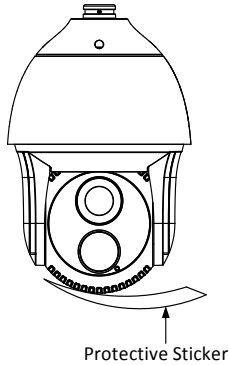

Figure 2-2 Remove Protective Sticker
1. Remove the protective sticker as shown in Figure 2-2.